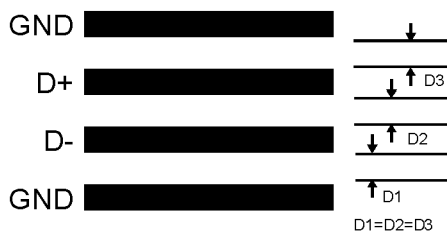

Figure 11. Recommended Diode Trace Layout
3. Diode traces should be surrounded by a GND guard ring to either side, above and below if possible. This GND guard should not be between the D+ and D- lines. In the event that noise does couple to the diode lines it would be ideal if it is coupled common mode. That is equally to the D+ and D- lines. (See Figure 11)